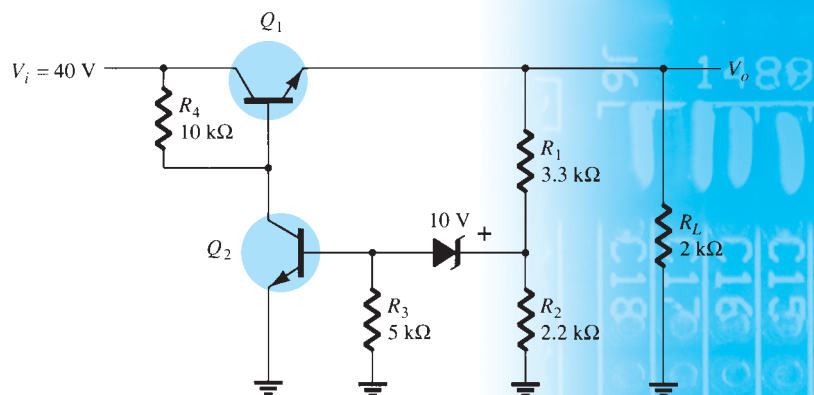

FIG. 15.43
20. What regulated output voltage results in the circuit of Fig. 15.43?